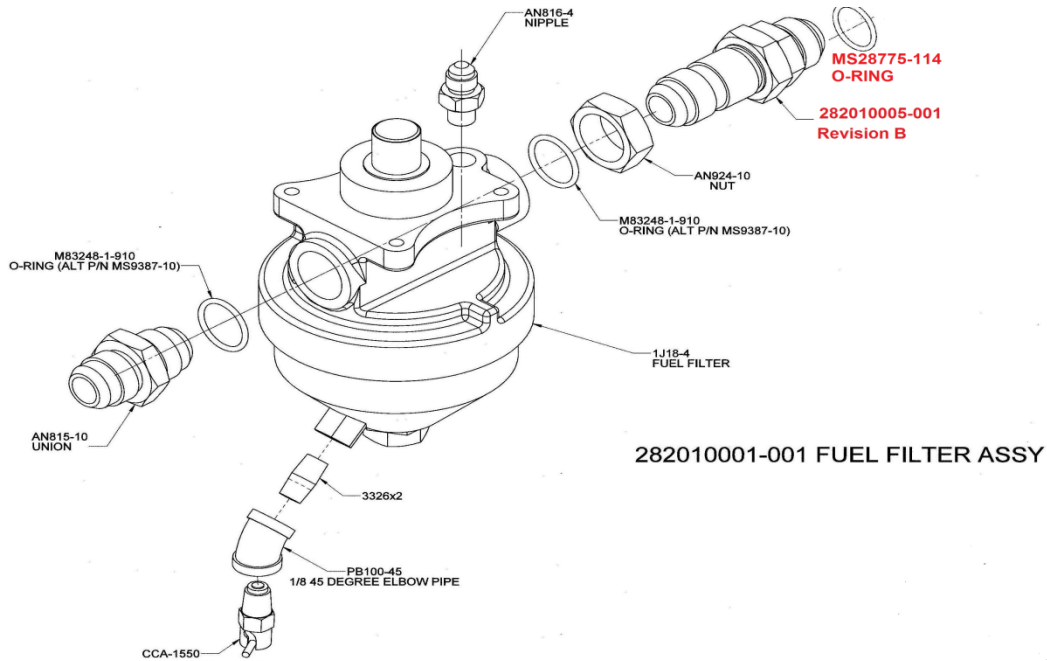

Figure 115-6: Fuel Filter Assy and Associated Hardware
- 8.1.1. Refer to figure 115-6 and 115-7 for identification of parts during disassembly and re-assembly.
- Place a new MS28775-114 O-Ring on the new 282010005-001 Revision B fitting and re-assemble in the fuel pump. **See Figure 115-6 for this step and steps iv thru vii.